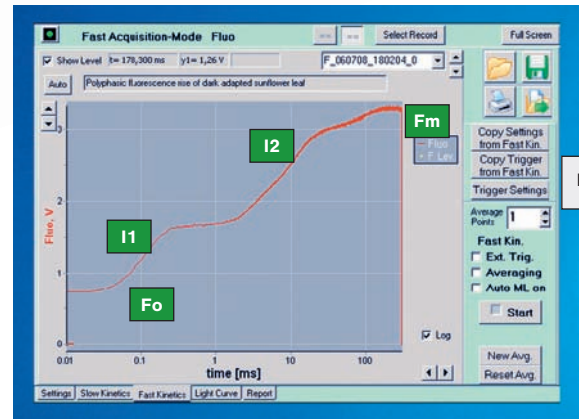

Fig. 9
▶ Fast Kinetics, log time scale (Fig. 9)